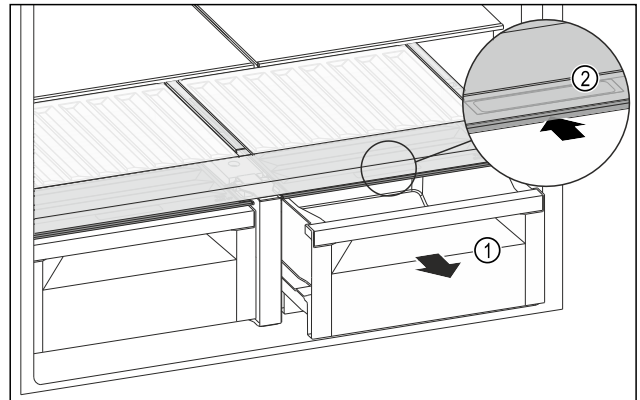

Fig. 129
- ▶ Pull out the drawer *Fig. 129 (1)*.
- ▶ Grip the handle recess *Fig. 129 (2)* on the lid while pulling the lid backward at the same time.